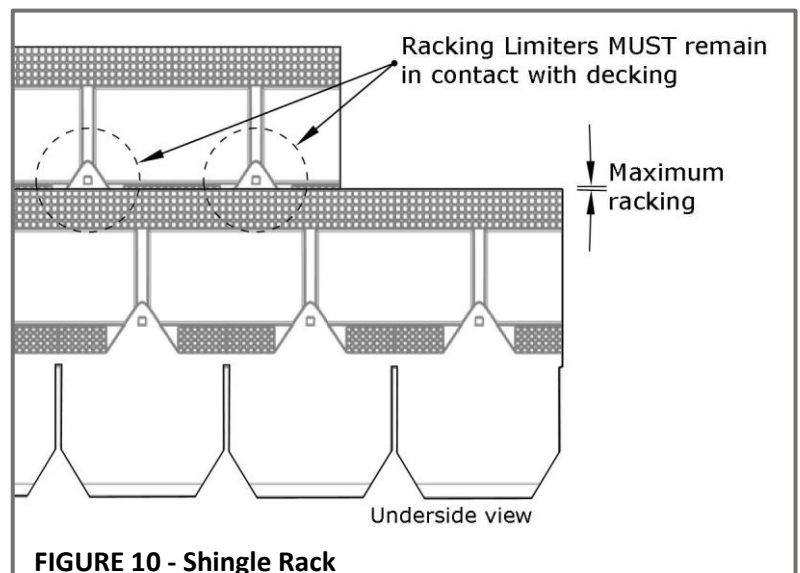
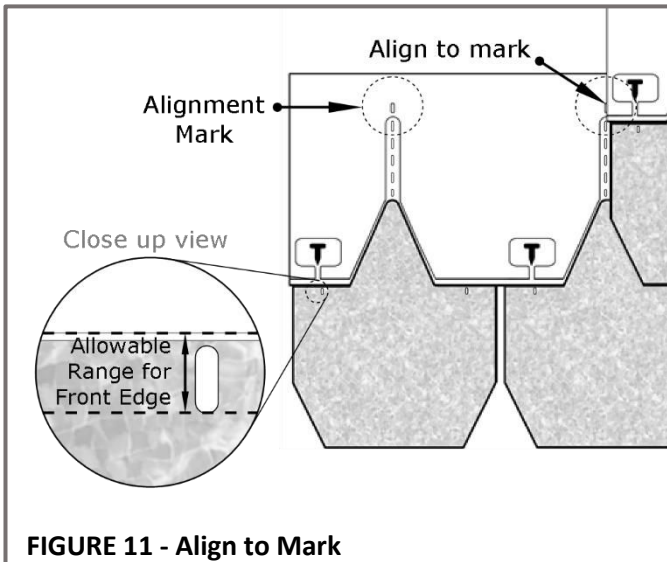

FIGURE 10 - Shingle Rack
FIGURE 11 - Align to Mark
- F-WAVE® REVIA® XTM Roofing Shingles have been designed to allow some rack (skew) when installed. See **Figure 10**, and **Figure 11**.
- For Designer Slate: Estate Series, always place the shingle edge on the alignment mark shown. See **Figure 11**.